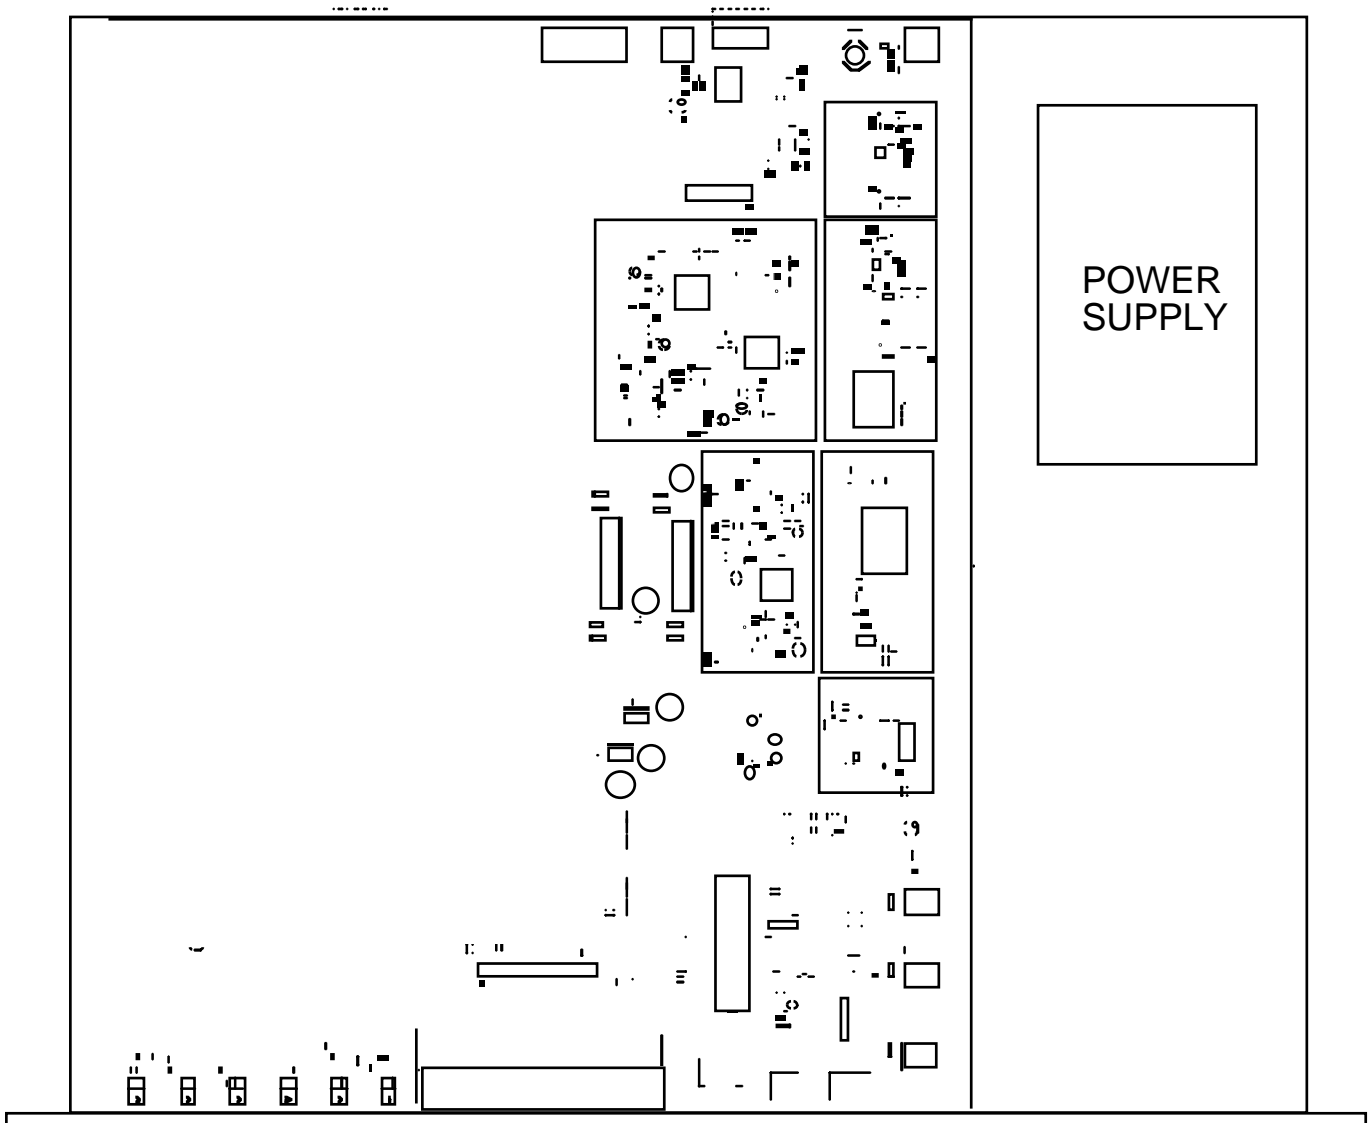

FIGURE 2.1 2016-04 Mechanical Assembly
The 2016-04 consists of one RF/Controller PCB housed in a 1 RU (1 3/4 inch high) by 16 inch deep chassis. A switching, ± 12 , +24, +5 VDC power supply provides power for the assemblies. The 2016-04 can be secured to a rack using the 4 holes on the front panel. Figure 2.1 shows how the 2016-04 is assembled.
7. Option -L only - To insert LNB +24 VDC on the RF center pin install 0.5A fast blo fuse in F1 and check that DS8 lights yellow (Figure 2.1)